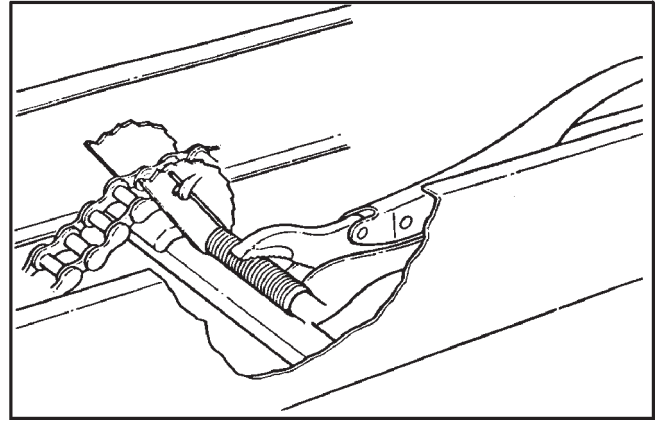

Figure 7-8. Securing tensioner cam
3. Turn the tensioner cam assembly in the direction which winds up the torsion spring and push the assembly down as close as possible to the cam follower block in the bottom of the frame. Secure it in this position with a Vice-Grip 10CR as illustrated in Figure 7-8.